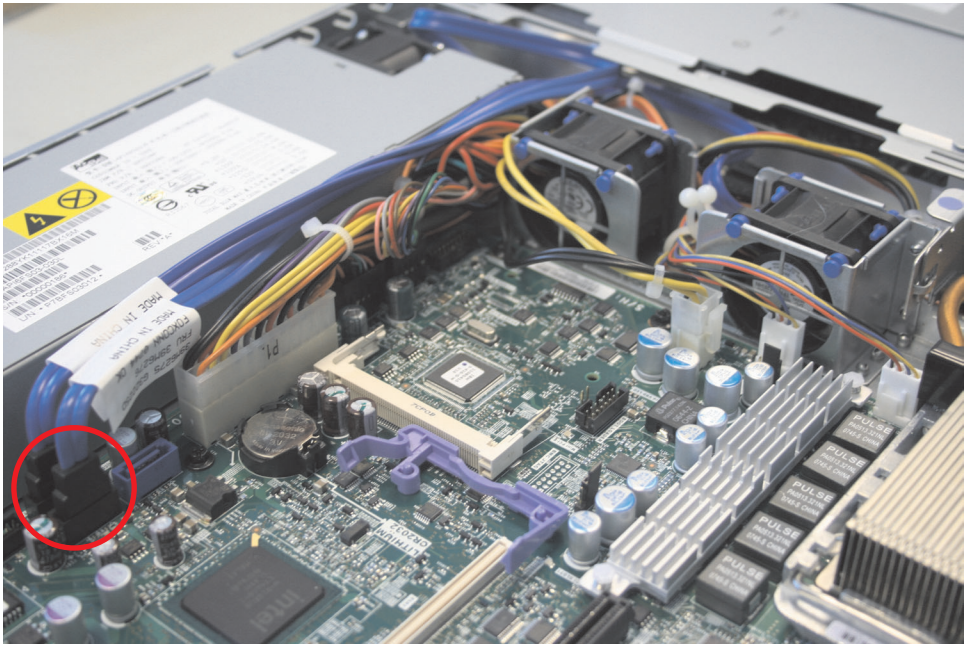

Figure 274. SAN Volume Controller 2145-8A4 SATA cable connectors
8. Disconnect and remove both SATA disk cables from sockets SATA 0 and SATA from the system board, as shown in Figure 274 on page 274.